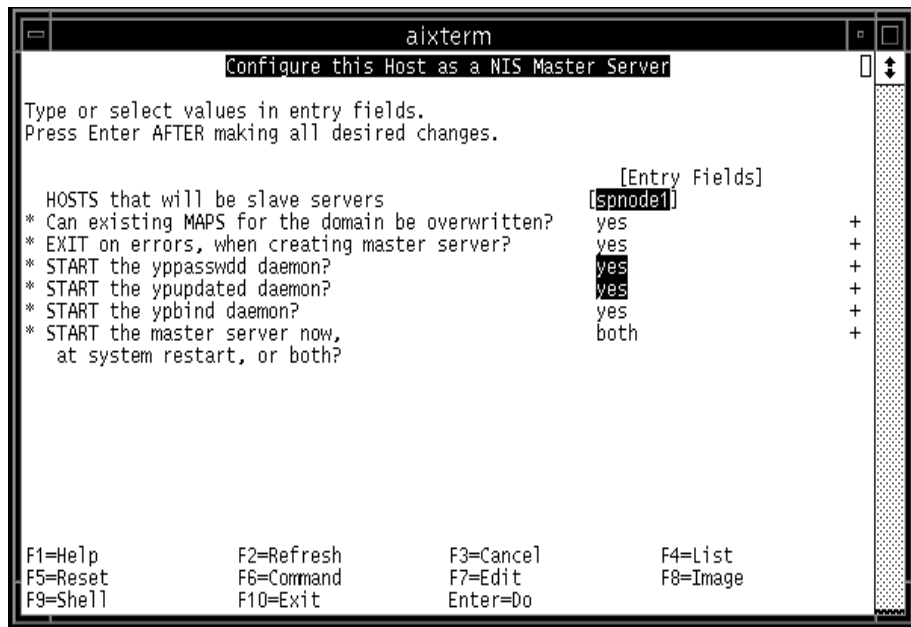

Figure 45. SMIT Panel for Configuring a Master Server
- On the machine that is to be the NIS master (for example, the control workstation), select **Configure/Modify NIS** and then **Configure this Host as a NIS Master Server**. Figure 45 on page 81 shows the SMIT panel. Fill in the fields as required. Be sure to start the `yppasswd` and `ypupdated` daemons. When the SMIT panel is executed, all four daemons: `ybind`, `ypserv`, `yppasswd`, and `ypupdated` are started on the master server. This SMIT panel also updates the NIS entries in the local `/etc/rc.nfs` file.